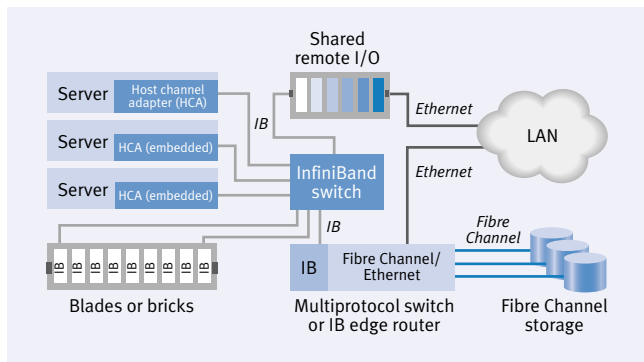

Figure 5. Sample InfiniBand fabric topology
A new I/O architecture, InfiniBand™ (IB), may drive the modular server landscape because it provides a universal interconnect fabric that is ideal in situations where space is limited and multiple fabrics such as Ethernet, Fibre Channel/SCSI, IPC (inter-process communication) are not possible (see Figure 5). IB can offer the following benefits for server blades: